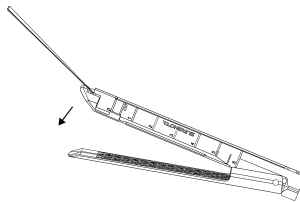

Fig. 4-5: Reload Removal
2. Insert the spike or pointed tools such as forceps between the reloadslot, and pry the reload in the direction shown in Fig. 4-5 until it is separated from the Stapler. Discard the disassembled and used reload.